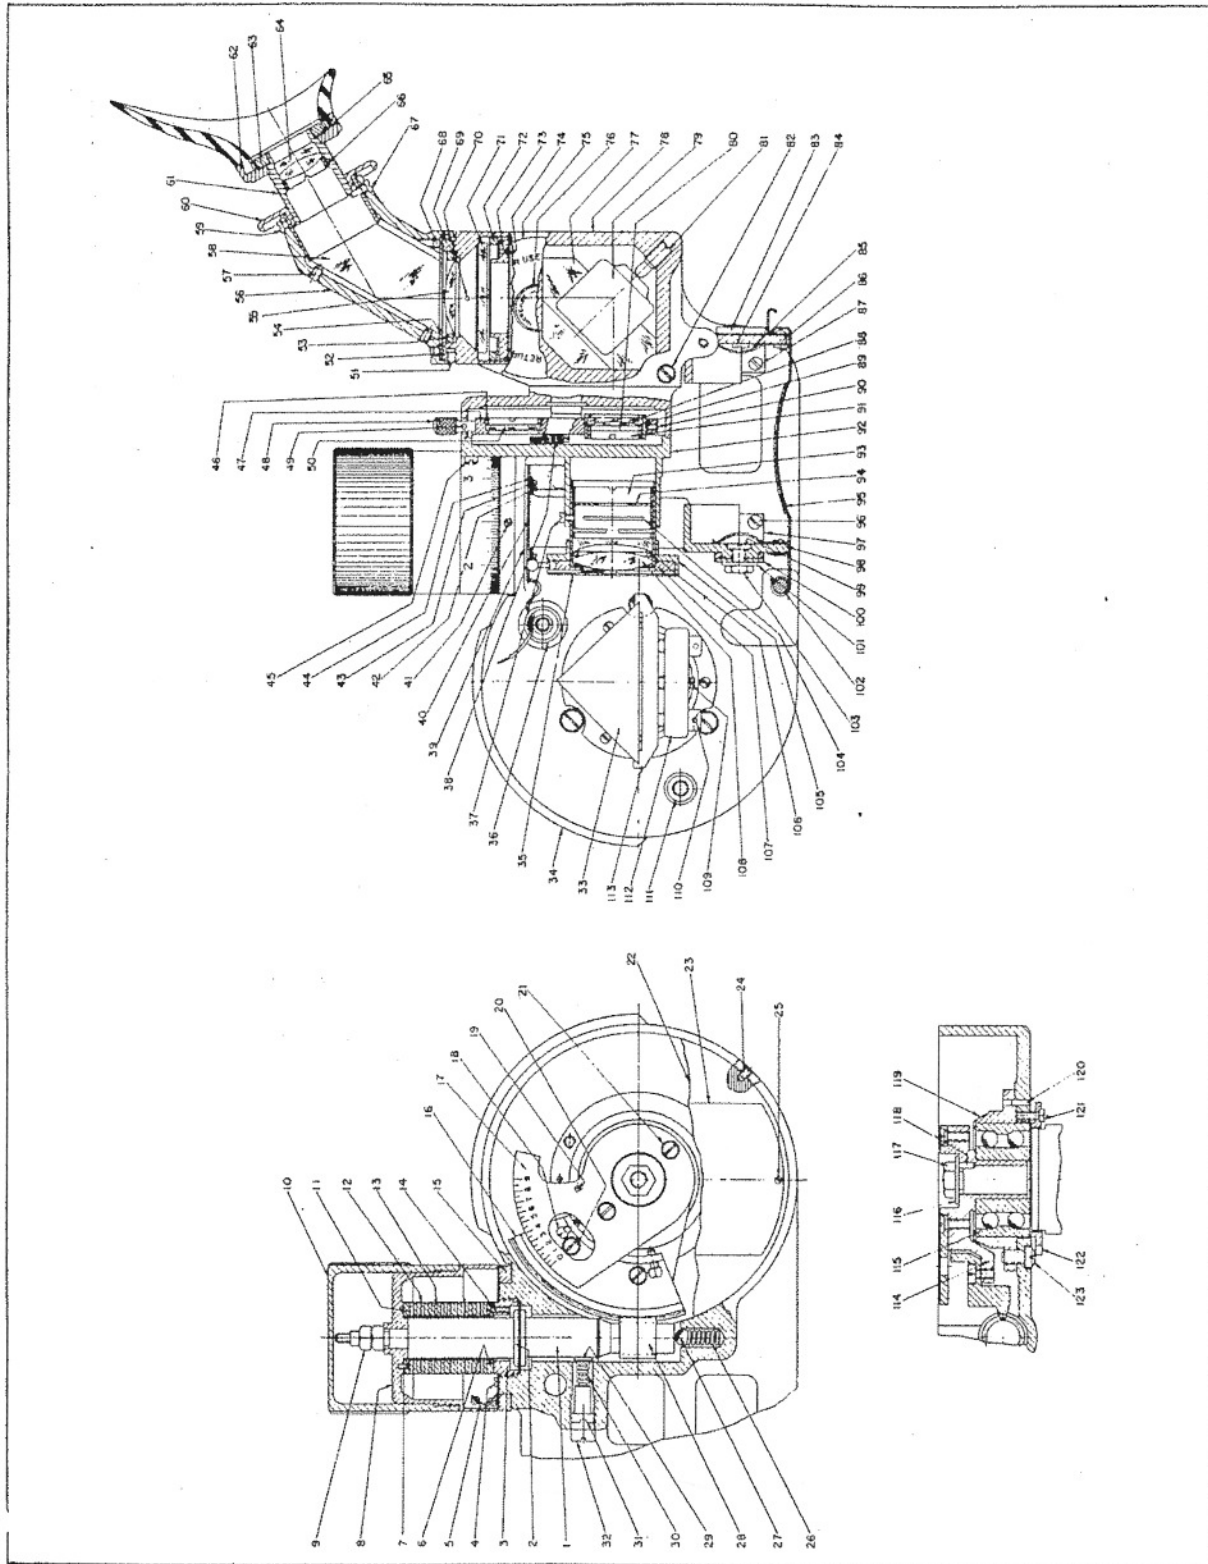

Figure 24 - Right Side - Sectional View - Aircraft Sextant -
(4) TO DISASSEMBLE TELESCOPE ASSEMBLY. (Refer to figure 24).
(See Fig. 24)